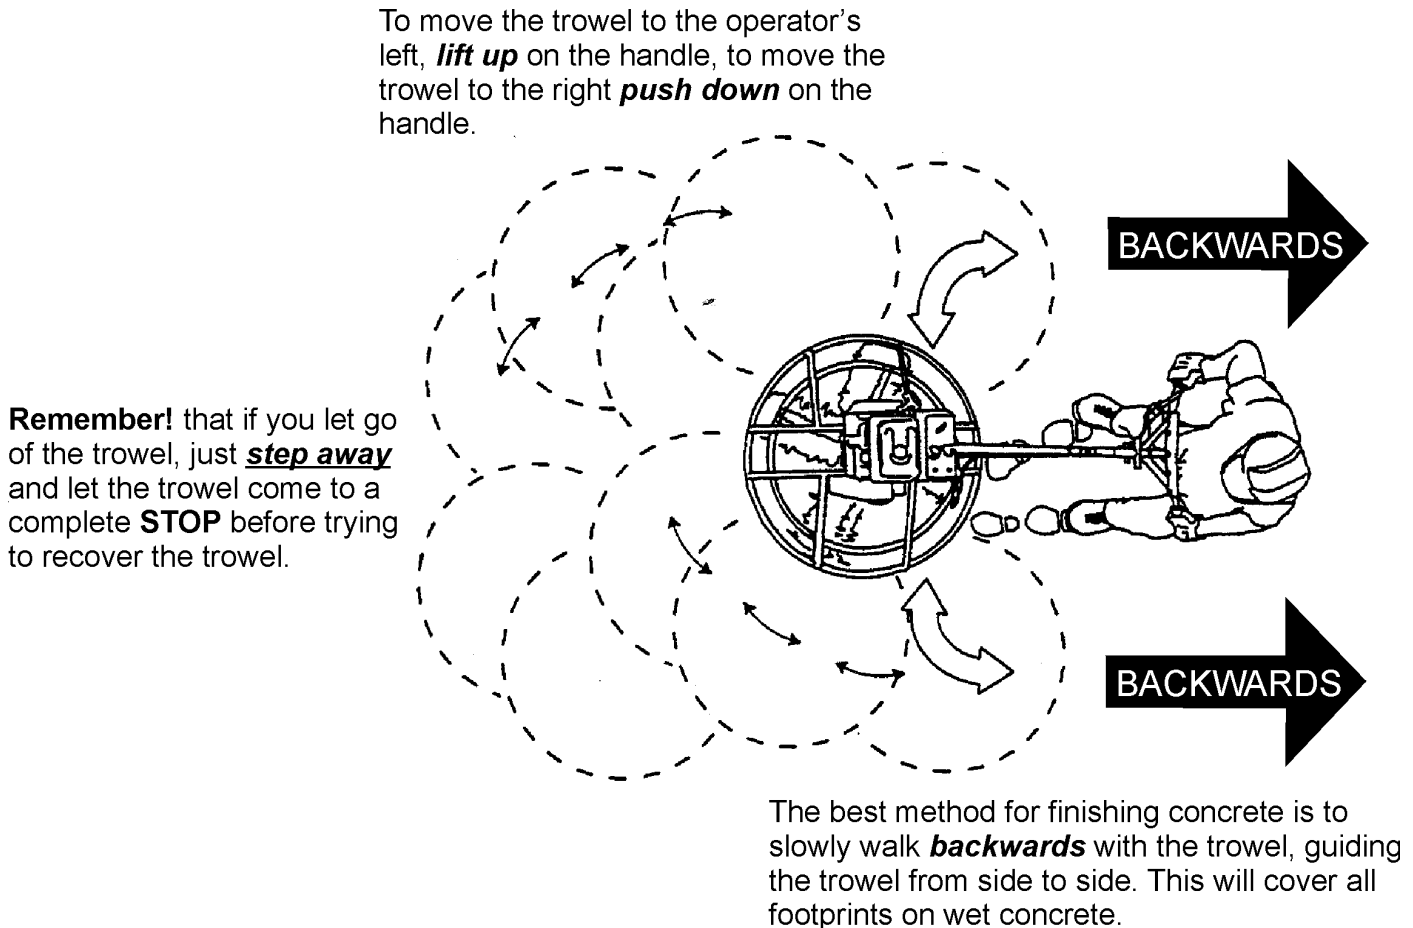

Figure 30. Maneuvering The Trowel
3. The best method for finishing concrete is to slowly walk backwards (Figure 30) with the trowel, guiding the trowel from side to side. This will cover all footprints on wet concrete.
(Figure 30) below illustrates a typical walk-behind trowel application. Practice maneuvering the trowel. The trick is to let the trowel do the work.